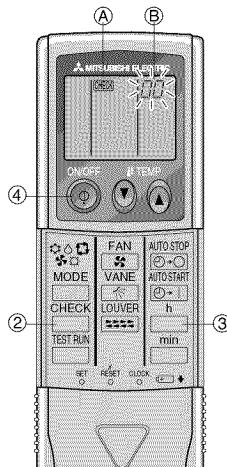

Fig. 7-4
- (E) Check code
- (F) Unit address
7.3.2. Wireless remote controller (Fig. 7-4)